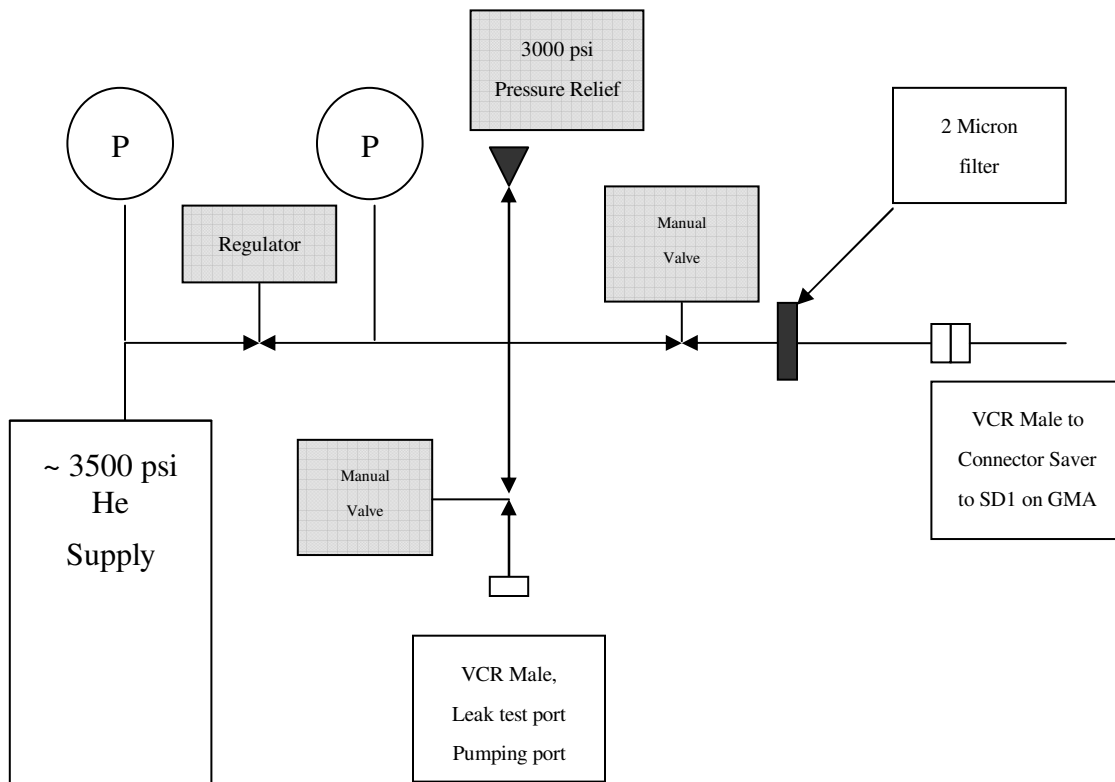

Fig. 1 Schematic of Helium gas supply manifold.
The pressure in any part of the GMA must never exceed the rated pressure of any individual component to withstand that pressure. The GSE equipment will incorporate a pressure relief valve to ensure that the pressure in the GMA or GSE will not exceed 3000 psi. See Fig. 1.
| High Pressure Regulator Manifold for Helium 4 | See Fig. 1                   |             |
4.1.2 See Fig. 1. Attach regulator to He4 bottle and then attach He4 gas bottle line to SD1 through the connector saver.